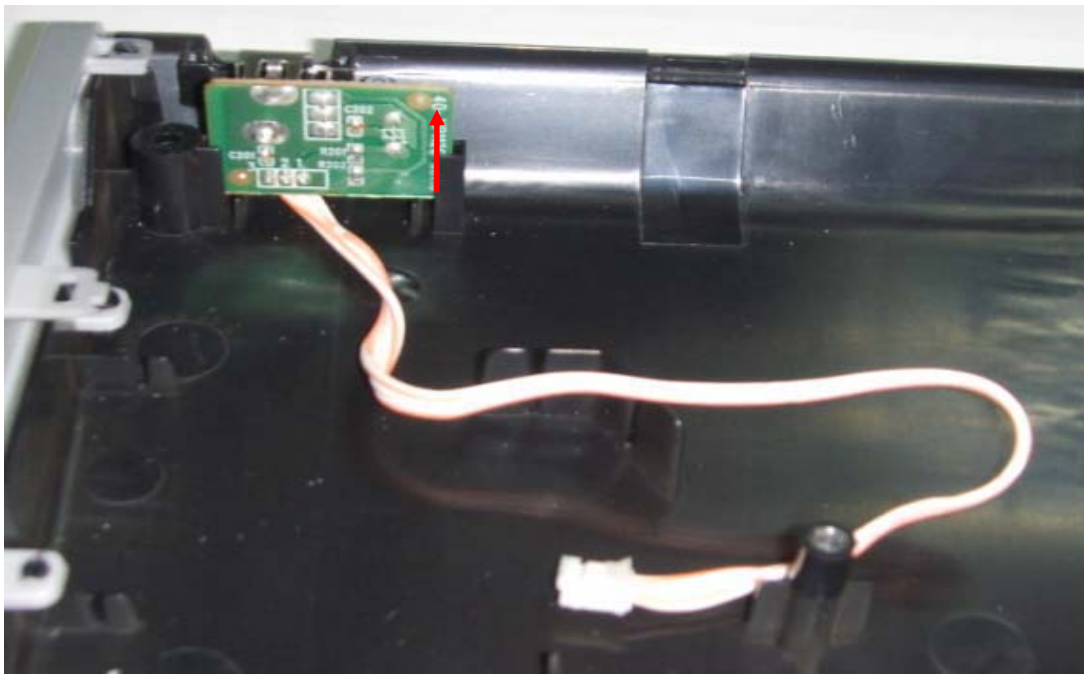

Figure 8
**Step6:** Dismantling IR board: remove the IR board follow the red sign, then can remove the IR board. (Figure8)